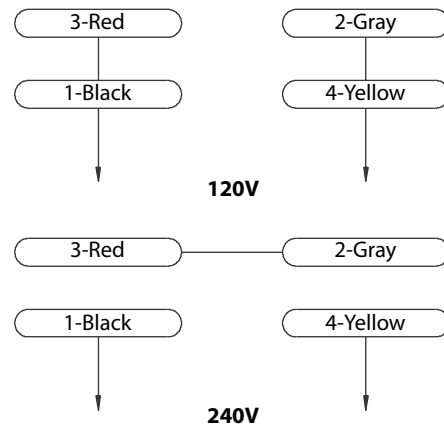

Figure 5 – Wiring Diagram
- Motor and wires are installed as shown in wiring diagram (See Figure 5). Motor is assembled with approved, 3-conductor cord to be used at 120/240 volts. Motor is prewired at the factory for 120 volts.